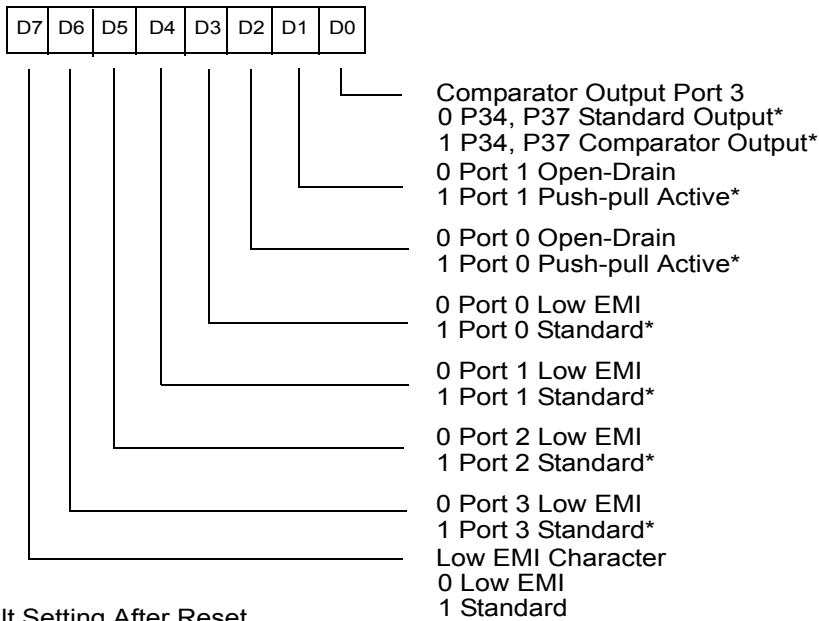

Figure 30. Port Configuration Register (PCON) (Write Only)
**Port Configuration Register (PCON).** The PCON register configures the ports individually; comparator output on Port 3, open-drain on Port 0 and Port 1, low EMI on Ports 0, 1, 2 and 3, and low EMI oscillator. The PCON register is located in the expanded register file at Bank F, location 00 (Figure 30).